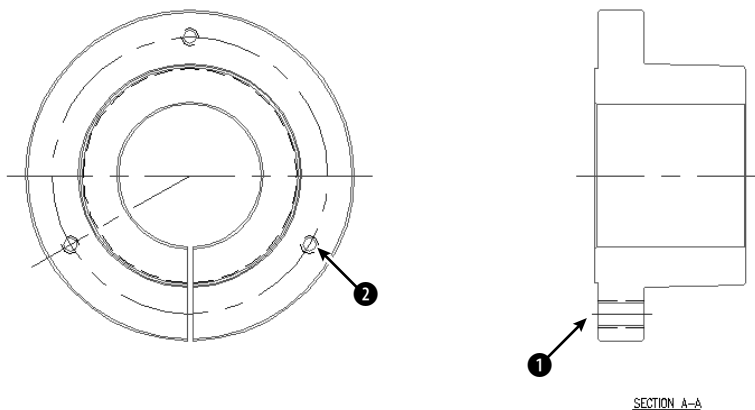
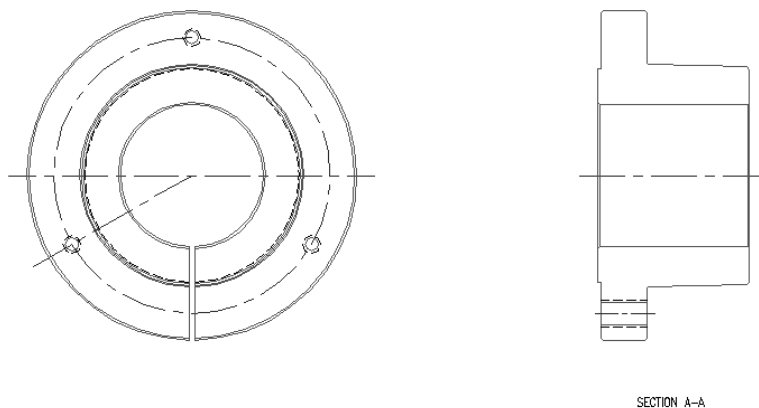

**Figure 11-26:** This drawing of a bushing has two noncontinuous linetypes. Thanks to Robert Mack of the Dexter Company, Fairfield, Iowa, for this drawing.
**Figure 11-27:** The drawing's noncontinuous lines are now more appropriate.
To change the linetype scale, choose Format ⇨ Linetype to open the Linetype Manager, as shown in Figure 11-26. Click Show Details if the lower portion of the dialog box is not displayed. In the Current Object Scale text box, type the scale factor that you want. Click OK. Now all objects that you draw use the current object linetype scale.
2. Save the file as `ab11-05.dwg` in your `AutoCAD Bible` folder. This drawing is of a bushing, as shown in Figure 11-26. Notice that the linetype doesn't show clearly on the short line at ❶ and in the small circle at ❷.
3. Choose `Format` ⇨ `Linetype`. Click `Show Details` to open the `Details` section of the `Linetype Manager`, if necessary. Change the `Global scale factor` to 0.5. Click `OK`. The drawing regenerates. Note that the circles are better, but the short line at ❶ still looks like a continuous line.
4. Choose the line at ❶. Choose `Tools` ⇨ `Palettes` ⇨ `Properties` to open the `Properties` palette (if it isn't already open). Click `Linetype scale` and change it to 0.5. Press `Enter`. Press `Esc` to remove the grips and see the result. Notice the difference in the line, which now has a linetype scale of 0.5 (global) times 0.5 (object) = 0.25.
5. Save your drawing. It should look like Figure 11-27.